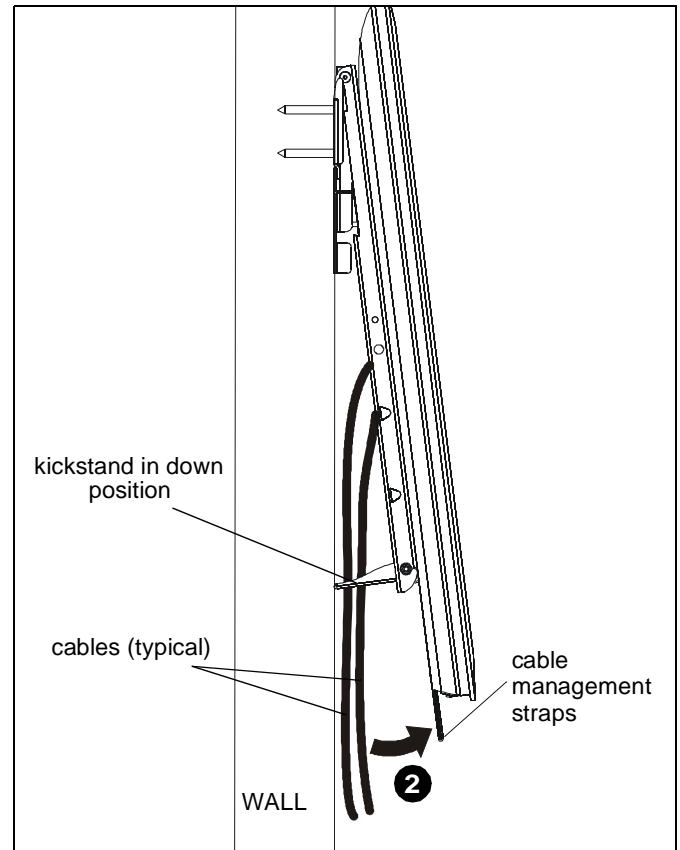

Figure 9
2. Slowly pull bottom of display away from wall until kickstand fully reaches its down position. (See Figure 9)
5. To disengage kickstand, slightly pull display away from wall and pull down on cable management straps to release kickstand. Slowly allow display to return to the wall. (See Figure 9)